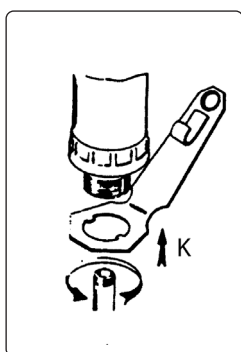

fig.4
- 4.2. OPERATIONS FOR USE WITH THE TP90/HK OPTIONAL HOSE KIT (Figs 4 & 5):**
- 4.2.11.2. Fix the hose bracket (Fig.4.K) over the slots on the pump body.